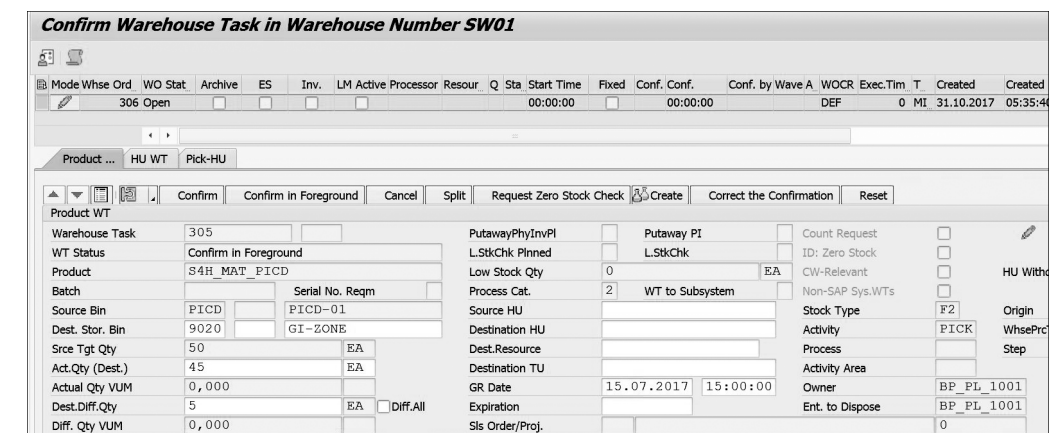

Figure 8.30 Confirming Outbound Delivery Order with Difference
- You can either repick the remaining amount in the warehouse request document by creating a warehouse task for the difference quantity, or choose not to pick the difference quantity by using **Adjust Delivery Quantity** option in the **Process Codes** button at the item level in the outbound delivery order to equate the delivery quantity with the picked quantity. This changes the status of picking from **Partially Completed** to **Completed** and allows you to post goods issue for the outbound delivery order. This process is shown in Figure 8.30.